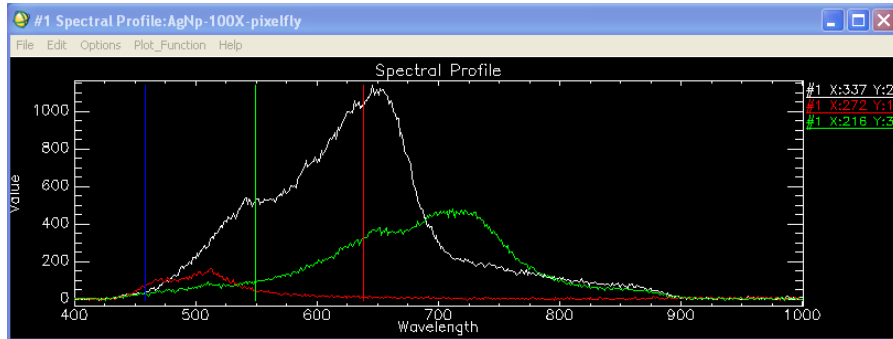
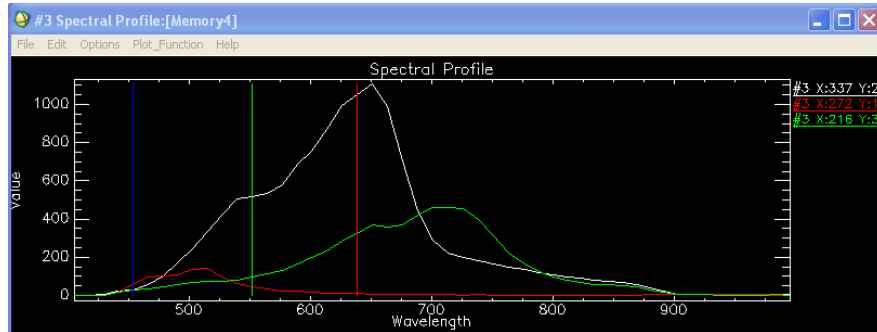

Figure 11d: Spectral Profile for Unfiltered Image
Figure 11e. Spectral Profile for Boxcar Filtered Image
- The spectral curves of a single pixel (Z-axis profile) are shown for the original (Figure 11d) and filterer data (Figure 11e).